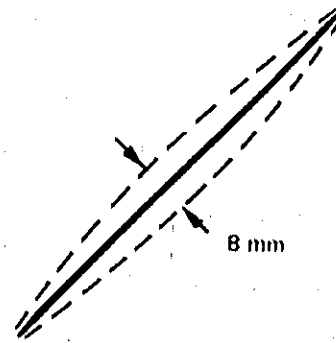

Figure 4-4. Phase-shift Measurement
- d. While watching diagonal trace on 1340A CRT, increase frequency until trace separation is 8 mm (see figure 4-4).